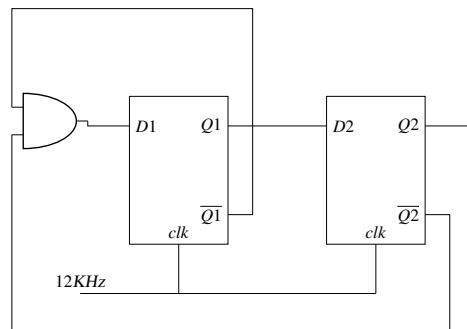

Fig. 5.18
18. In the circuit shown in Fig. 5.18, the clock frequency, i.e., the frequency of the clk signal, is 12 KHz. The frequency of the signal at Q2 is ____ KHz. (GATE-EC2019,25)